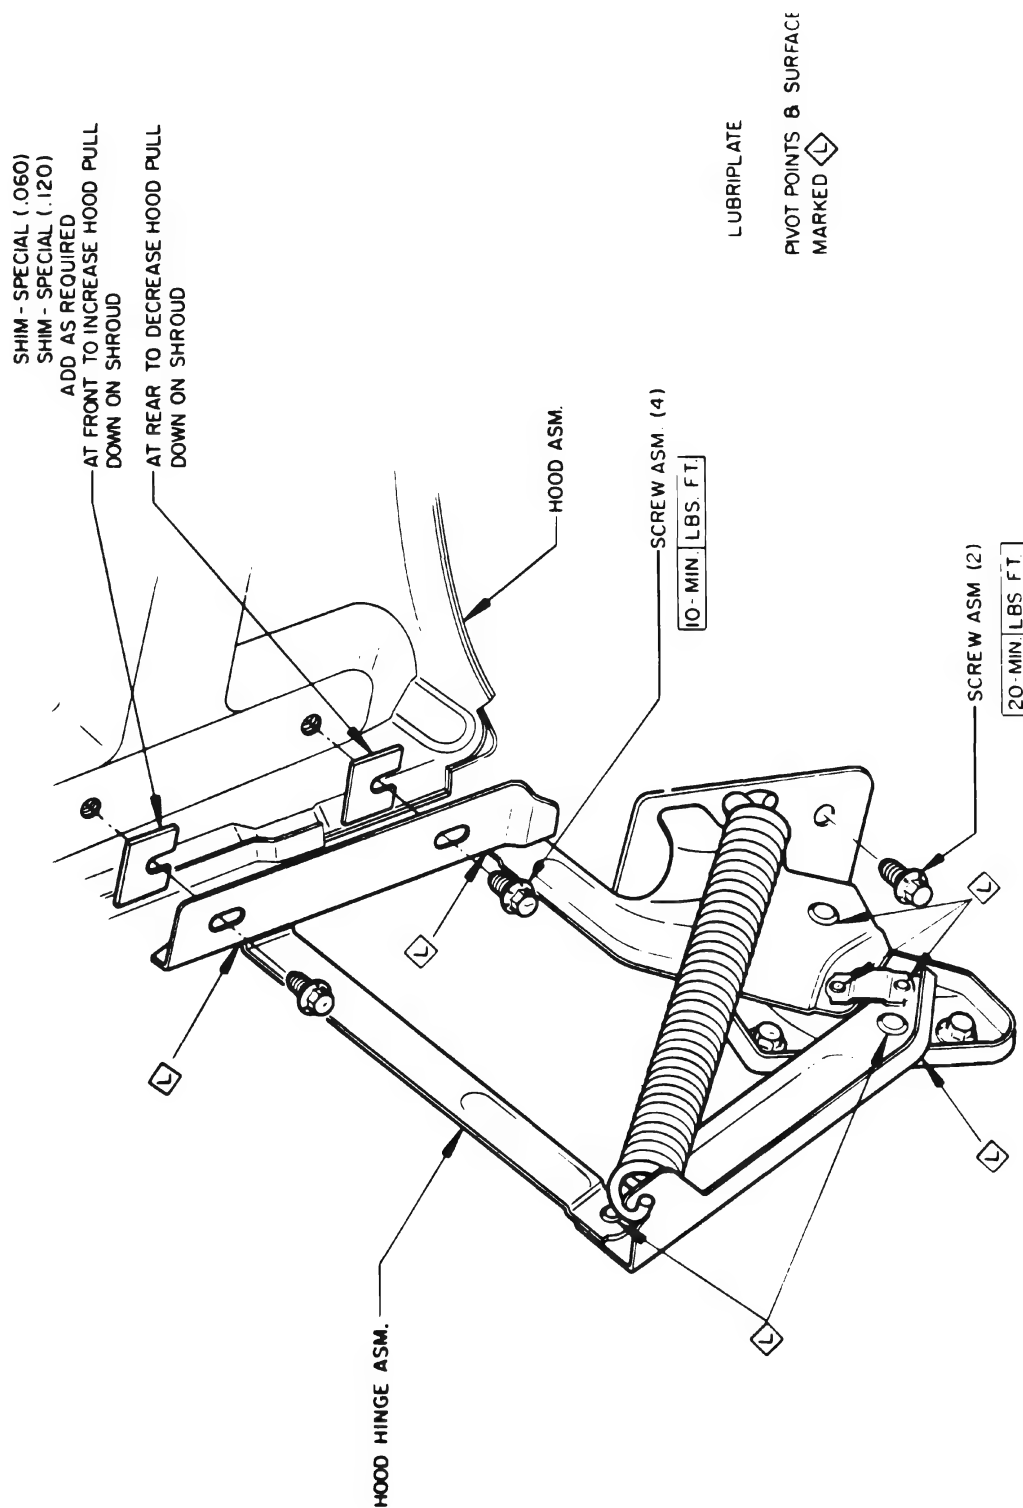

Figure 12-6—Hood Hinge Assembly—44-46-4800 Series
To prevent hood panel flutter, the rear end of hood panel must have firm contact with the lacing attached to cowl ledge. The hood may be raised or lowered by adjustment at hinges. See Figure 12-6.
1. **Rear Height.** Rear hood height is determined by special washers between hinge and hood. Removing or adding washers will shift rear of hood up or down with respect to hinge. See Figure 12-6.
at the front bolts. See Figure 12-6
Too much tension is indicated if the rear area of the hood bends as it is closed. To decrease tension, add special washers between the hood and the hinges at the rear bolts. See Figure 12-6.